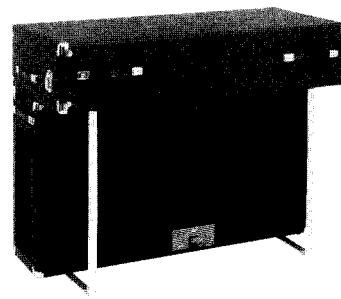

FIGURE 2
2. There are two metal furniture glides on the bottom of the Keyboard Case. Place the Keyboard Case on the Speaker Enclosure (Fig. 2), carefully aligning it so that the two glides will fit into the two recessed plastic cups in the top of the Speaker Enclosure. If the alignment is correct, the Sustain Pedal will work freely.